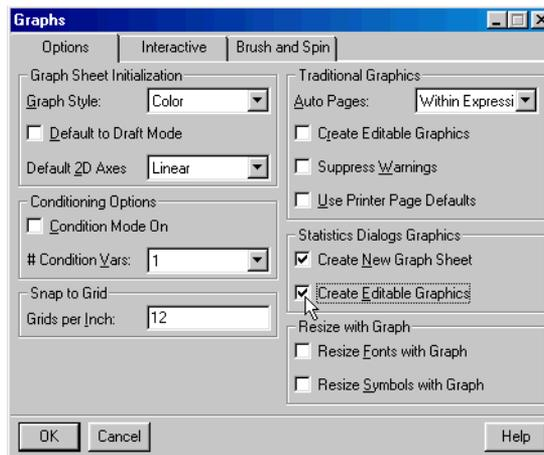

Figure 6.2: *The Options page of the Graphs dialog.*
1. From the main menu, choose **Options ► Graph Options**. The **Graphs** dialog opens, as shown in Figure 6.2.